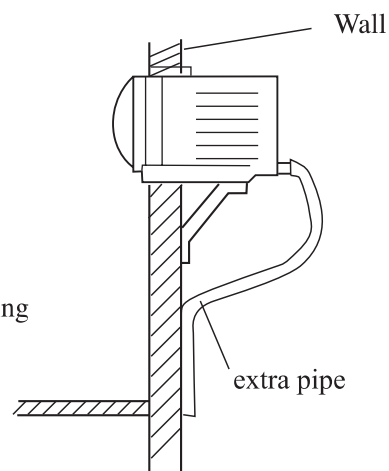

Fig. 4
- After installation of all the accessories, put the whole machine on the iron frame. If there's extra pipe, lead the pipe to needed position (see Fig.4).